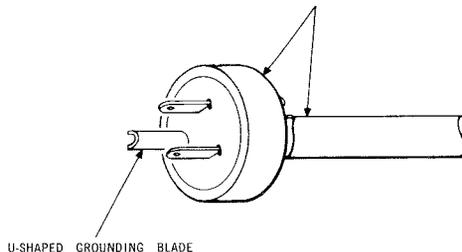

Fig. 4 — Standard U-Ground Plug
4.01 All electric power tools except lamps, soldering coppers and ALL-INSULATED tools, must be equipped with a 3-Conductor cord which terminates in a U-Ground plug. (See Fig. 4).